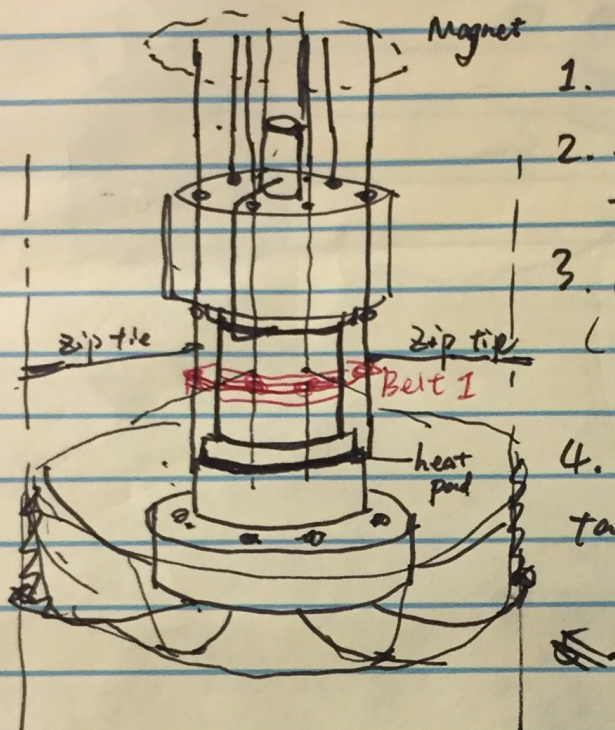

Fig. 1
2. Zip tie the threaded rods to the frame (no stress) Fig. 1